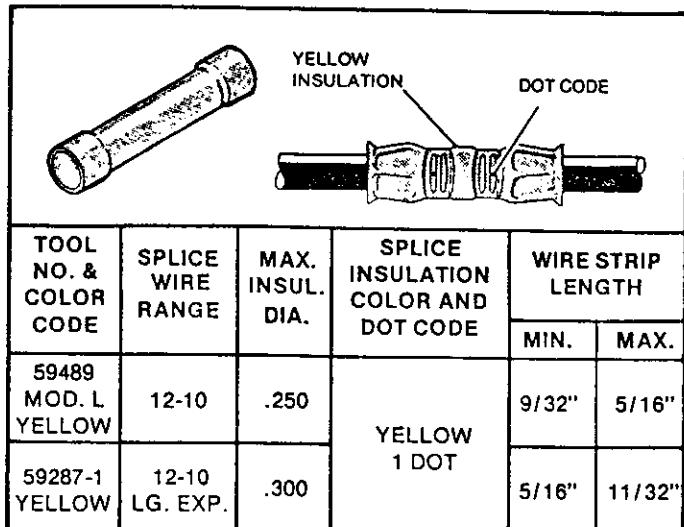

Figure 1
These instructions may be used for tools not listed in Figure 1 but accompanied by this IS. for unlisted tools, use the wire strip dimensions given in Figure 1 for an identical size tool.
Strip wire to dimensions listed in Figure 1.
- Note that the splices and tool handle are color coded yellow. See Figure 1.
- Observe dot code on finished crimp to insure that correct splice and tool combination was used. See Figure 1.